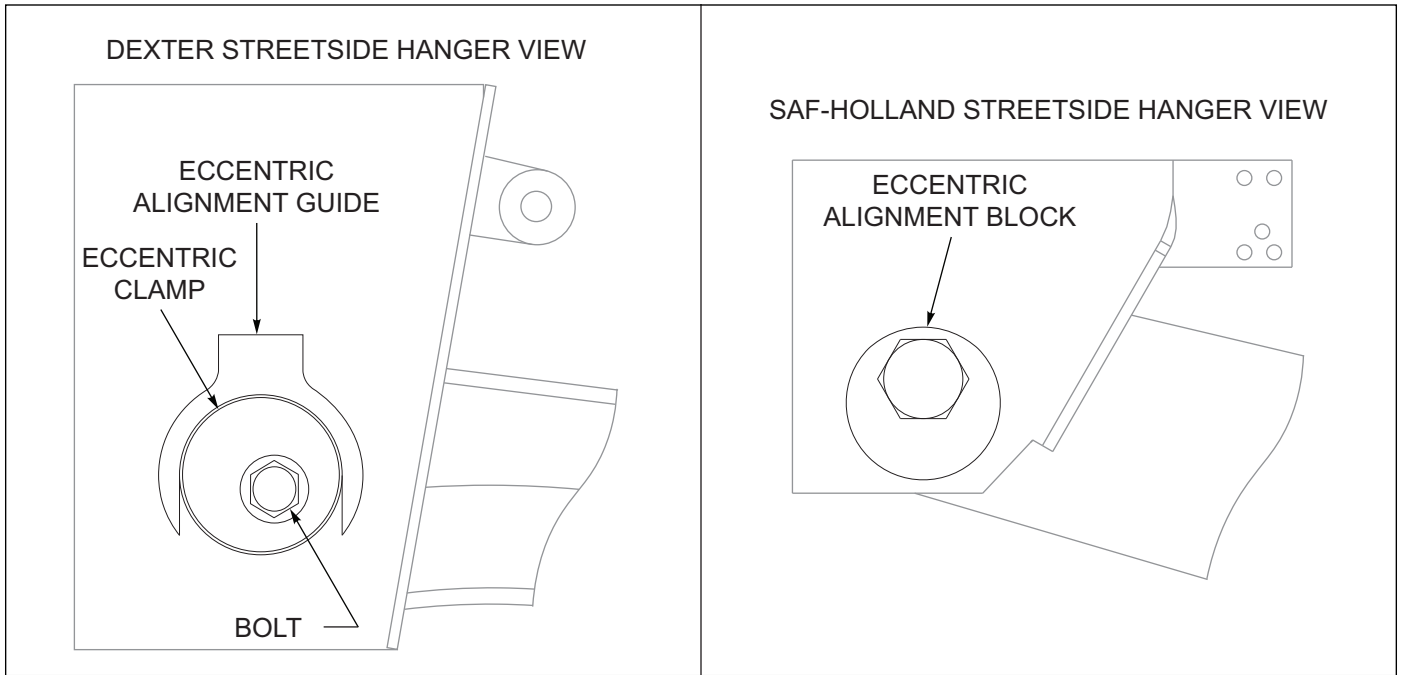

Figure 4-8: Streetside Suspension Hanger
- a. 1-1/8 in Pivot Bolts - Loosen pivot bolt lock nuts and rotate eccentric pivot bolts clockwise or counter-clockwise to adjust. Repeat Steps 5-6 until measurement is achieved, See Figure 4-8.
- b. 7/8 in Pivot Bolts - Break welds if present between hanger mounts/eccentric collars and pivot lock nuts/jam nuts. Loosen jam nuts if installed. Loosen lock nuts. Rotate eccentric pivot bolts clockwise or counter-clockwise to adjust. Repeat Steps 5 through 6 until measurement is achieved, See Figure 4-8.
- a. 1-1/8 in Pivot Bolts - Loosen pivot bolt lock nuts and rotate eccentric pivot bolts clockwise or counterclockwise to adjust. Repeat Steps 5 through 6 until measurement is achieved, **See Figure 4-8.**
- b. 7/8 in Pivot Bolts - Break welds if present between hanger mounts/eccentric collars and pivot lock nuts/jam nuts. Loosen jam nuts if installed. Loosen lock nuts. Rotate eccentric pivot bolts clockwise or counterclockwise to adjust. Repeat Steps 5 through 6 until measurement is achieved, **See Figure 4-8.**